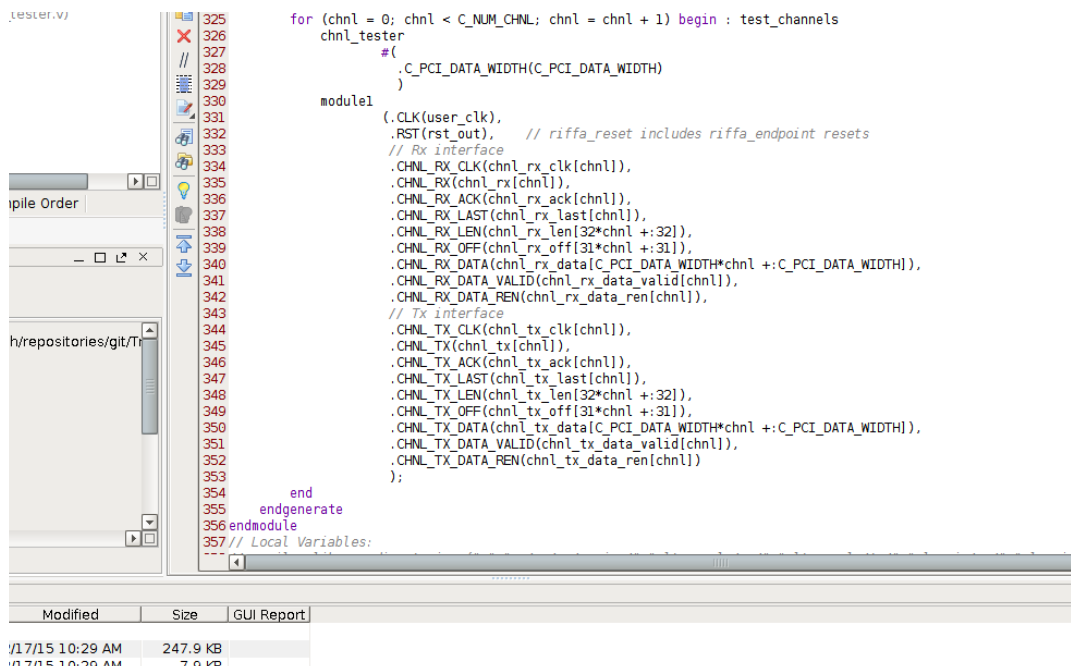

Figure 4.3: Project Splash Screen for 7Series Integrated Block for PCI Express Projects
6. The example design uses the *chnl\_tester* (shown in Figure 4.3, which works with the example software in the *source/{C-C++,Java,python,matlab}* directories. Replace the *chnl\_tester* instantiation with any user logic, matching the RIFFA interface.